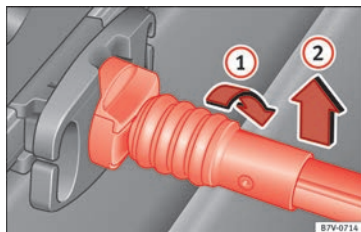

Fig. 170 Release the baggage net
- Rotate the attachment rod 90° to the right » » » Fig. 170 ① until you can see the red mark on the rod. Pull the attachment rod upwards ②.